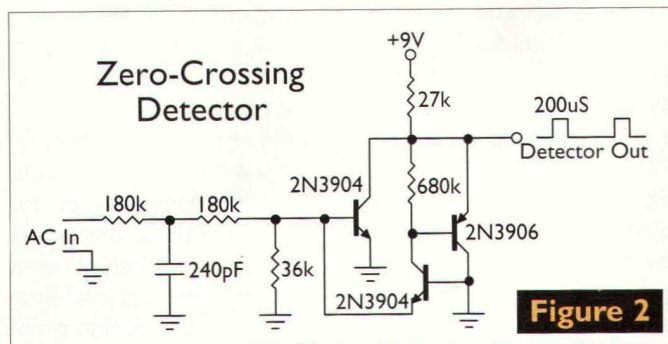

Figure 2
A. Grounding the collector of the 2N3906 transistor will solve this problem (Figure 2). As I explained, this circuit isn't of my design, but one you'll find in more than one switching power supply for zero-cross switching of the SCRs. What I forgot to mention (aside from the missing ground) is that the input is voltage sensitive and must fall in the range of 5 to 10 volts. You can adjust this using a potentiometer in a voltage divider configuration.